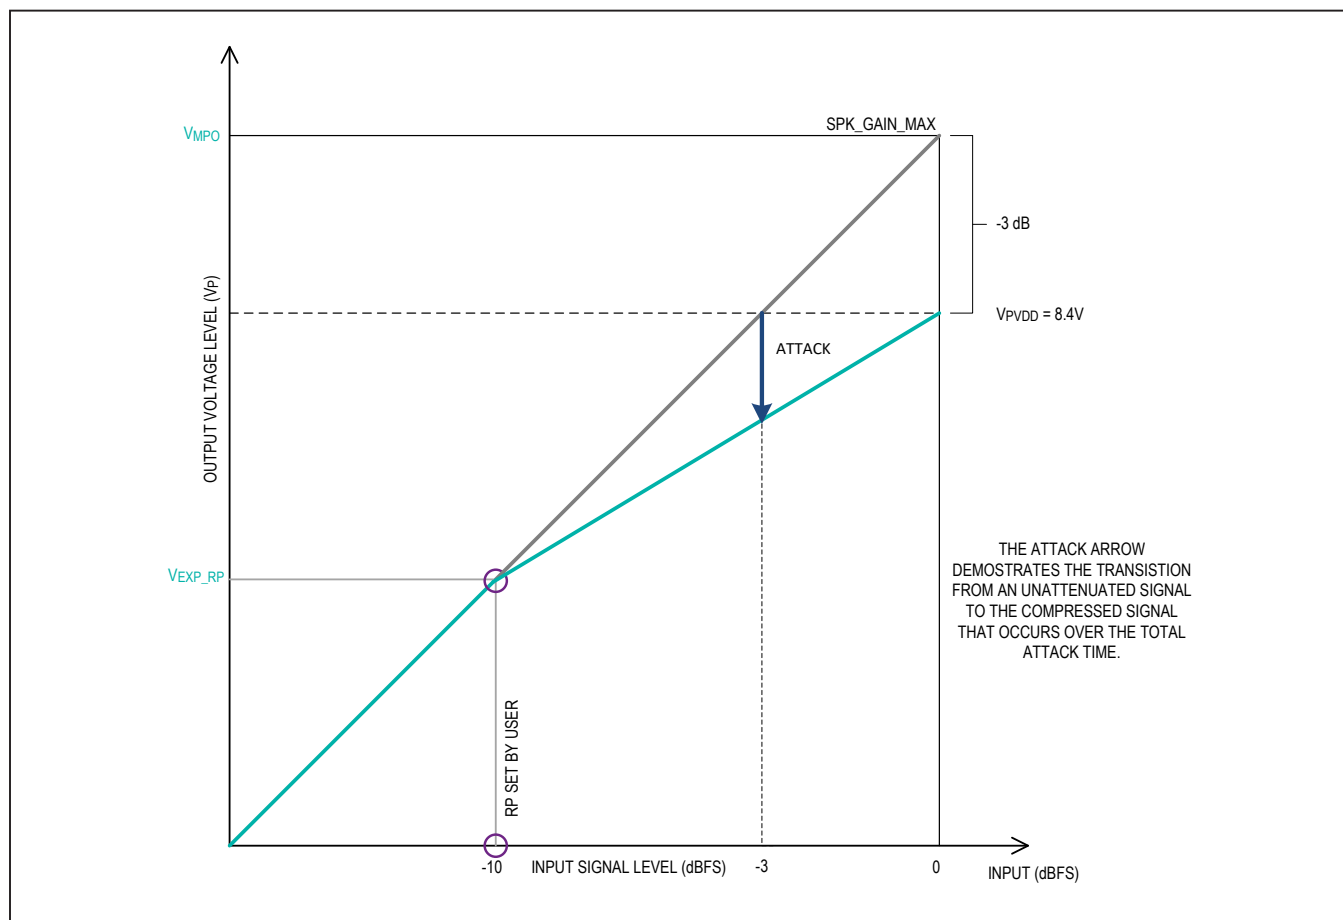

Figure 14. Dynamic Headroom Tracking Attack Functionality
When an input signal exceeds the rotation point, DHT applies attenuation to the signal over some amount of time (this is configurable through the DHT_ATK_RATE register 0x32). The instant that the large signal is input to the MAX98372, the output tries to reproduce that signal without any attenuation from the DHT. Over time, the DHT applies compression to ensure that the signal can fit within the available PVDD voltage. If a large enough input signal is applied there can be hard clipping on the output for a short time (Figure 14). However, after the full attack time has completed, there should be no clipping. Hard clipping can also be prevented by using the limiter. See the Limiter section.
where PVDD(V) is the voltage readback from the PVDD ADC, and V_{MPO} is the maximum peak output voltage (V_{MPO}), see Figure 14. For example, if $V_{PVDD} = 12V$ and $V_{MPO} = 12V$, then $PVDD(\text{dBFS}) = 0\text{dBFS}$. It should be noted that 0dBFS is the maximum value for PVDD(dBFS). If solving Equation 1 returns a value greater than 0 then 0dBFS should be used for further calculations. This is important as DHT only ever applies attenuation and never positive gain.